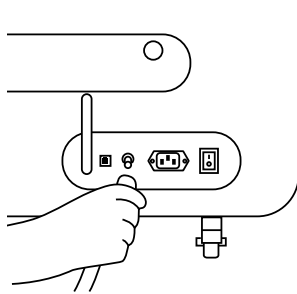

Fig. 10.1 Connecting the inert gas source.
1. Connect the source of inert gas to the gas inlet nipple on the back of the printer. It is a quick connect fitting (fig. 10.1).